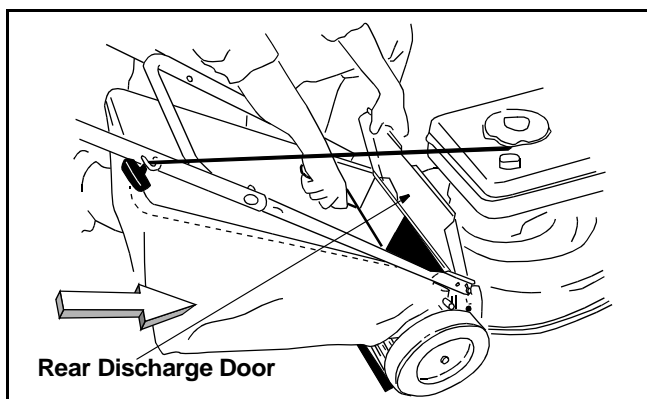

Figure 9
- Place the hooks of the grass catcher into the slots in the handle bracket assemblies on both sides. See Figure 9 .